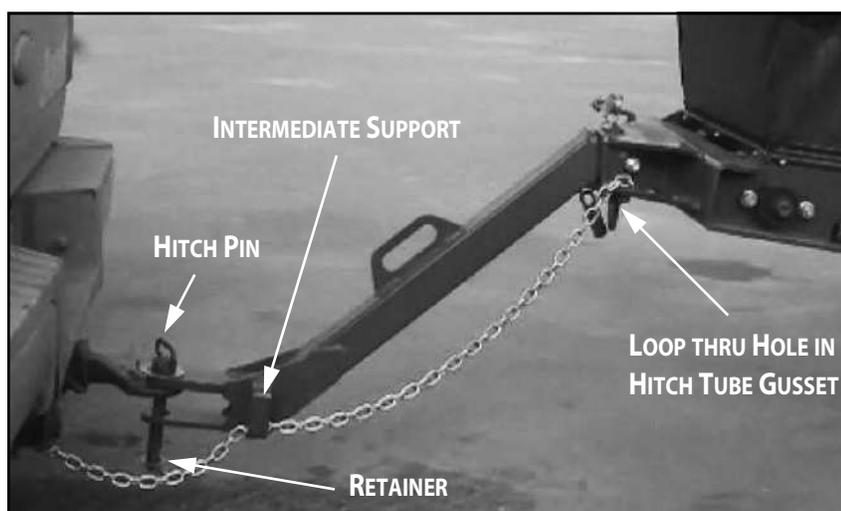

FIGURE 2-2. Safety Chain Installation
- Attach securely to tow vehicle or tractor using a  $\frac{3}{4}$ " dia. pin with a retainer and safety chain. Refer to Fig. 2-2 in Section 2.5.1 for safety chain attachment method.
- Attach the safety chain from the conveyor to the towing vehicle. The chain should be looped through the hole in the Hitch Tube Gusset on the intake of the conveyor (see Fig. 2-2). Route the chain through the intermediate support on the side of the conveyor hitch to the towing vehicle. Do not use the intermediate support as the primary method of attachment.